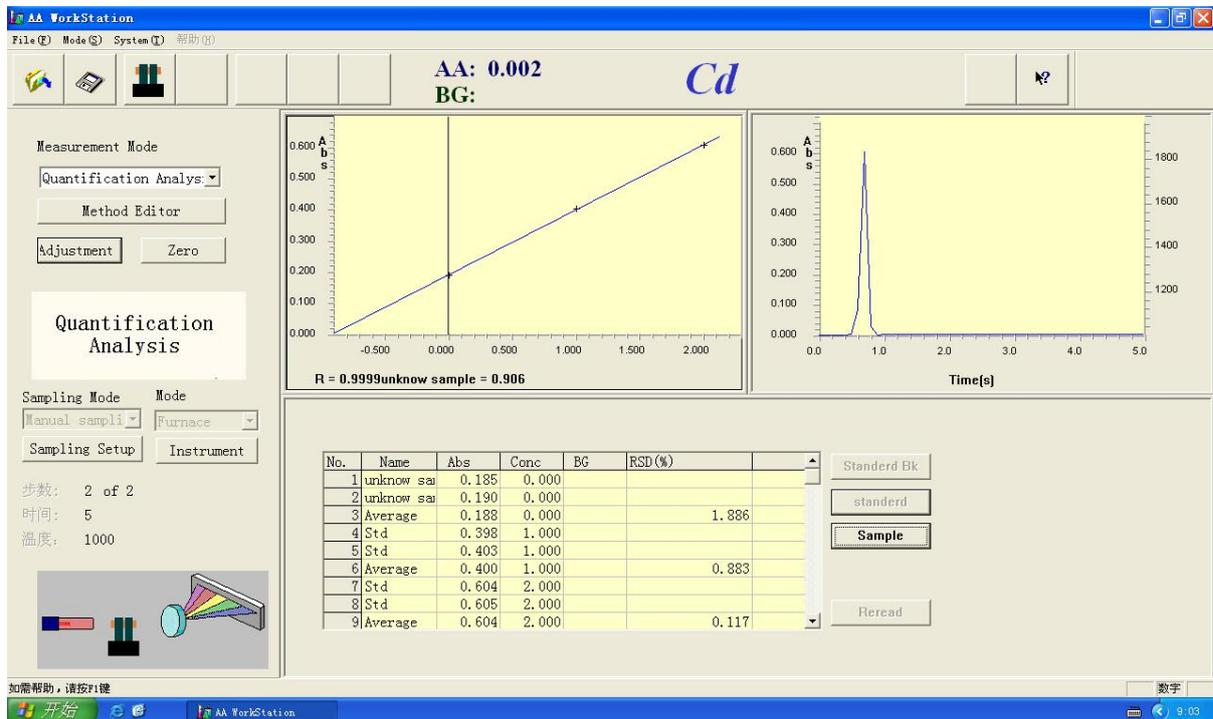
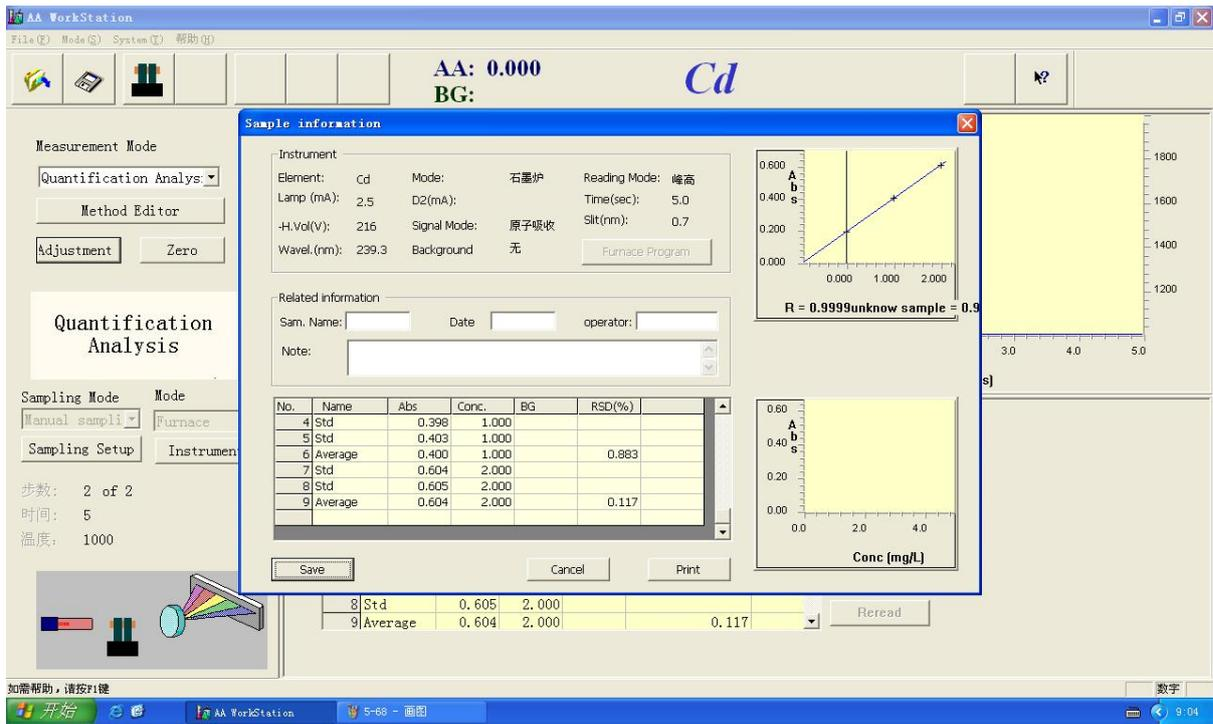

Figure 5-68a
Figure 5-69
1. Close the "Furnace Program" dialog box after testing the samples. Click the "Save" on the toolbar as shown in Figure 5-68a, or select the "Save Data" in the file menu as shown in Figure 5-68, then Figure 5-69 pops up